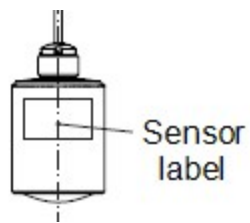
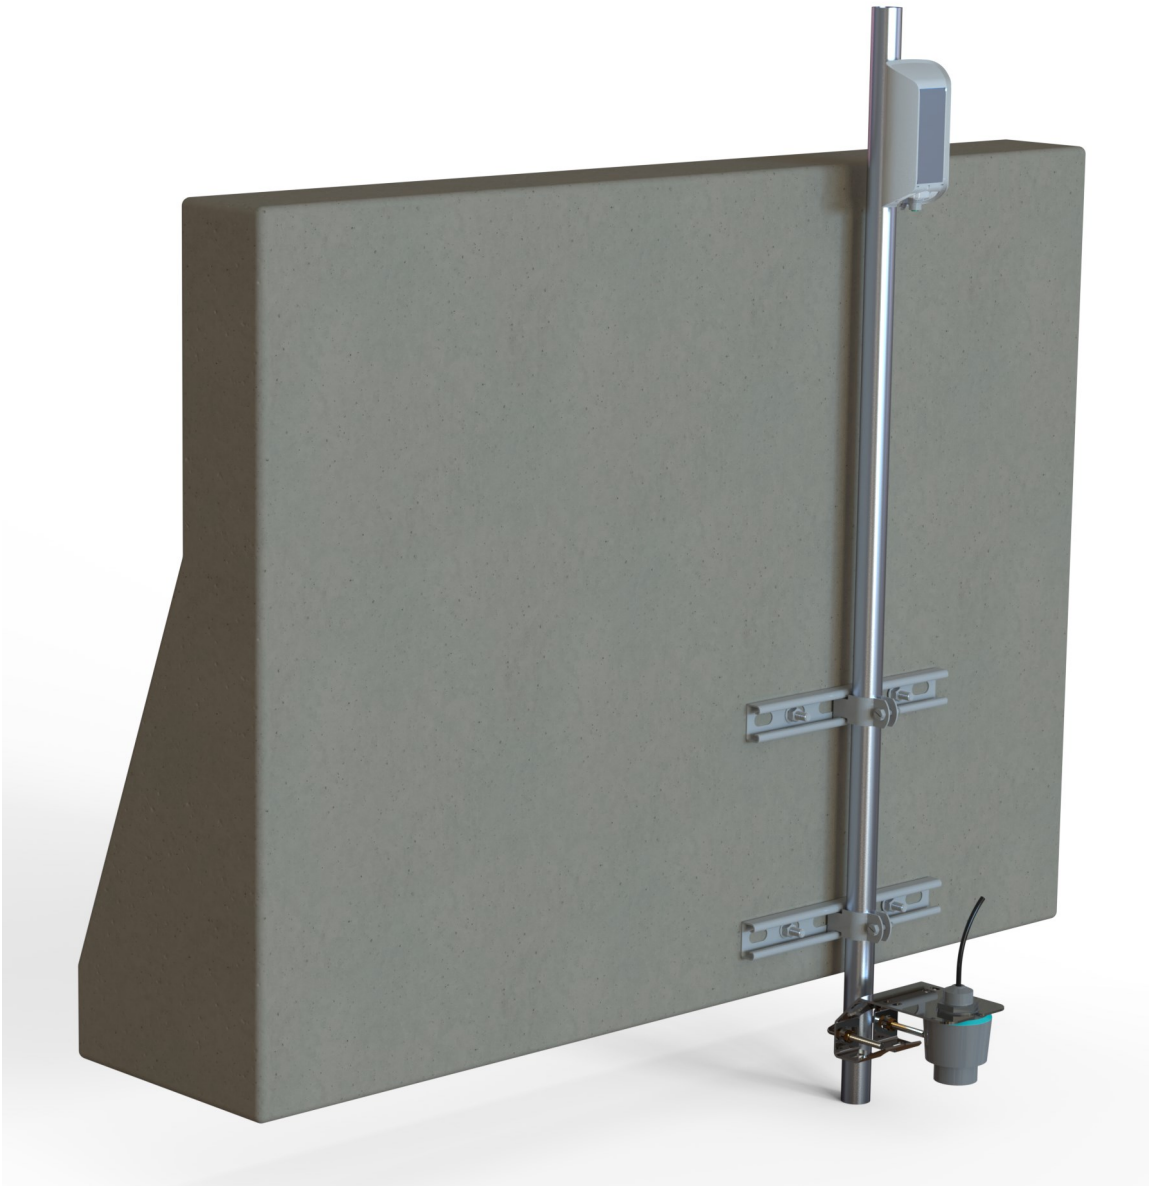

Figure 7-4. Polarization markings
Figure 7-5. RangeVue 15 mounted near wall (cable not connected).
3. Orient the sensor such that the middle of the sensor label is aligned or parallel with the wall or pier (Figure 7-4 [p. 14] and Figure 7-5 [p. 14]).